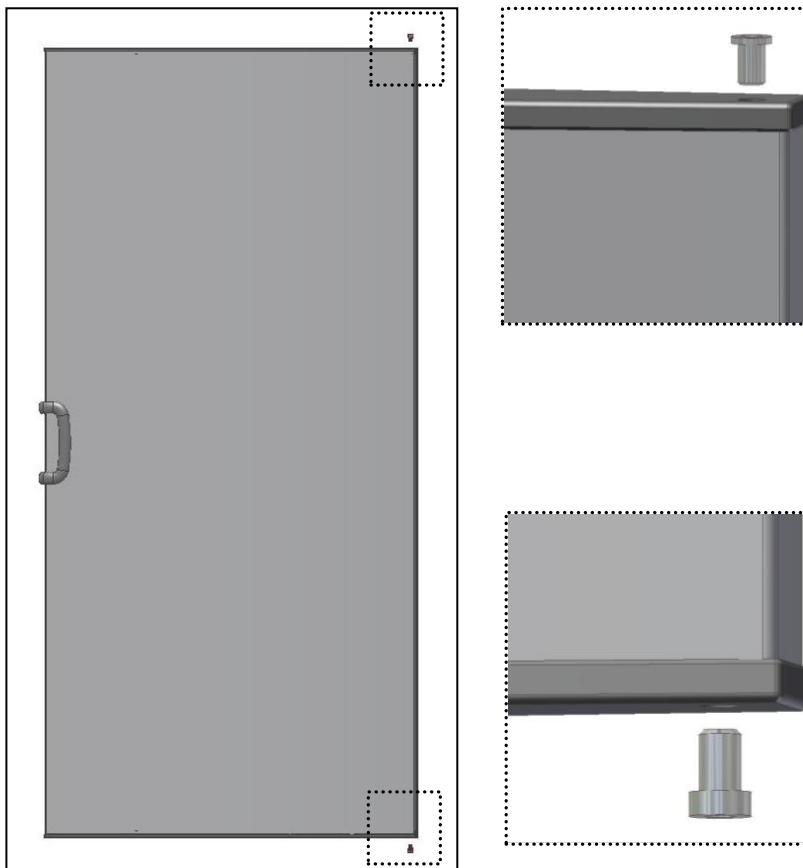

Fig. 8
- Insert the **sleeves** in the interior and superior side of the door (Fig.8).